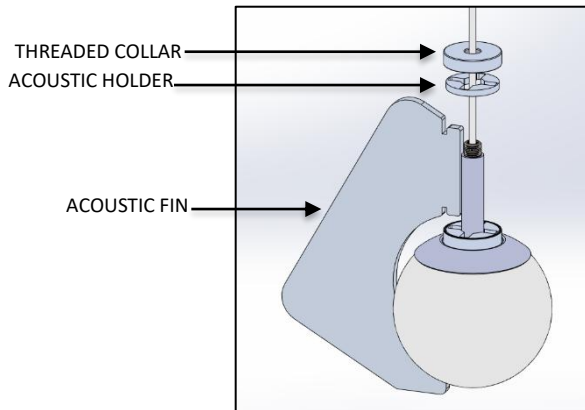

FIG. 25 – ACOUSTIC FIN
16. Raise the upper ACOUSTIC HOLDER and THREADED COLLAR and insert ACOUSTIC FINS into lower ACOUSTIC HOLDER as shown in FIG. 25.